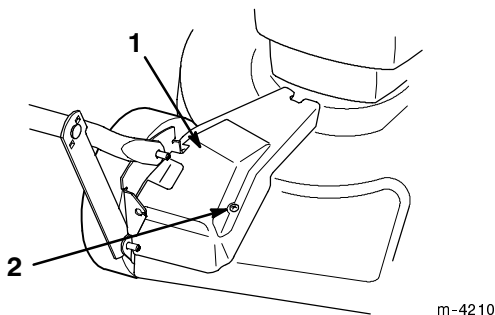

Figure 25
- With the engine turned off, remove the bolt that secures the belt cover (Fig. 25) and remove the cover.